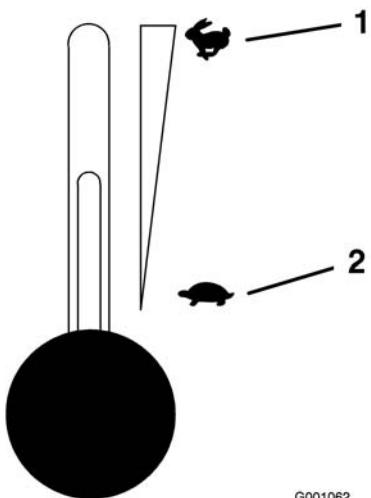

Figure 15
2. Move the throttle lever midway between the slow and fast positions (Figure 15).